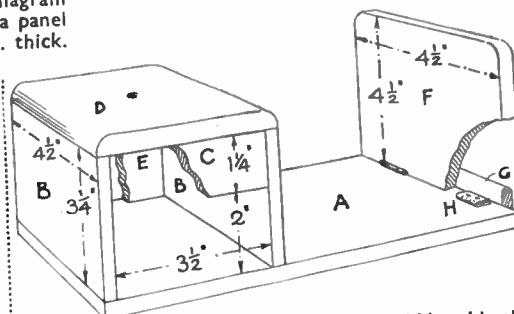

Fig. 2—Constructional details of cabinet and hinged book end
The end upright (F) of the bookrack is shown hinged to the base, so it can be folded down for packing if necessary. Cut the piece from  $\frac{1}{2}$  in. wood and round off the two top corners, as seen in Fig. 2. A pair of stout brass hinges should be recessed into the lower edge of the upright and screwed there.
Then the upright is folded down flat against the base and the flap of the hinge then screwed to the base. A fillet (G) of hard wood for preference should finally be screwed to the base, as shown in Fig. 2, the upper edge being rounded and all sharp corners taken off.